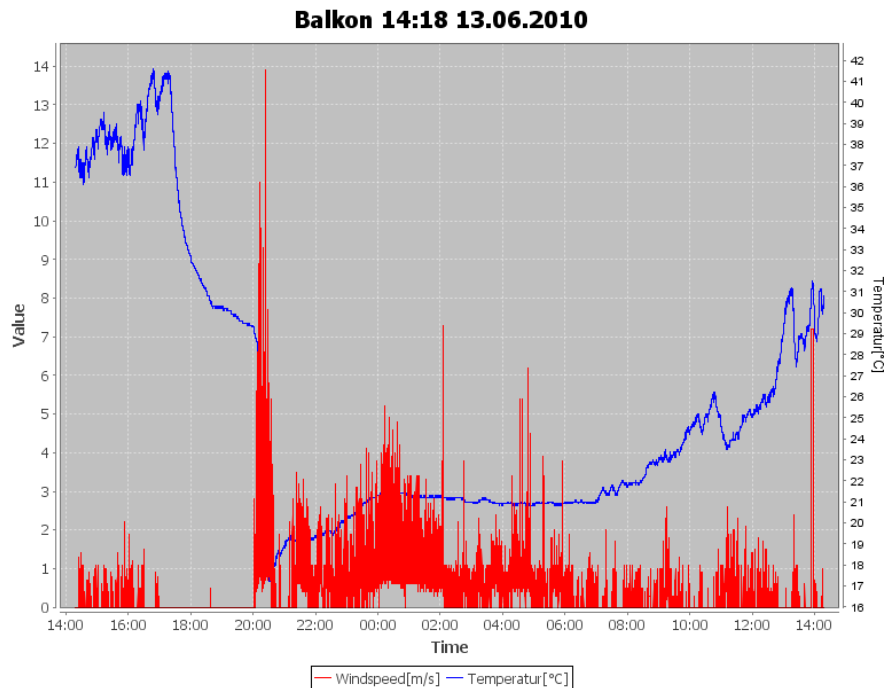

Figure 3.5: Last 24 hours of two separate parameters in one plot
**Hours** Use the last values of the last hours for the plot. The amount of the hours is specified in the plot configuration. It's the number after the timebase. Example of an 24 hour plot see Figure 3.5.